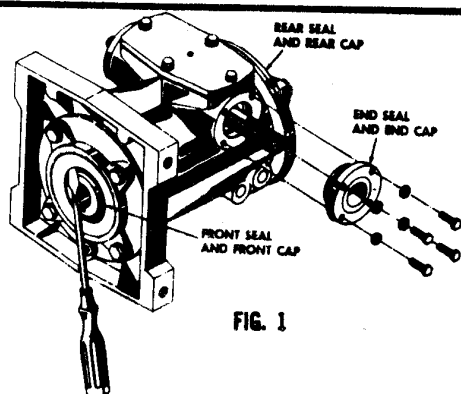

FIG. 1
### TO REMOVE EXISTING FRONT AND REAR SEALS from front and rear caps on Gear Reducer (Fig. 1):
### TO REMOVE EXISTING END SEAL and END CAP from Gear Reducer (Fig. 1):
2. Lay air switch assembly on flat surface and stand up on small end of switch mounting bracket. Adjust air blade by bending at "A" (Fig. 1) so that air blade lays flat and surface "B" is parallel to the flat surface.
2. Place the "A" & "B" diameter pins (see chart for size) inside the drying compartment between the rim of the basket opening and the rim of the door opening in the positions shown in Fig. 1 & Fig. 2.